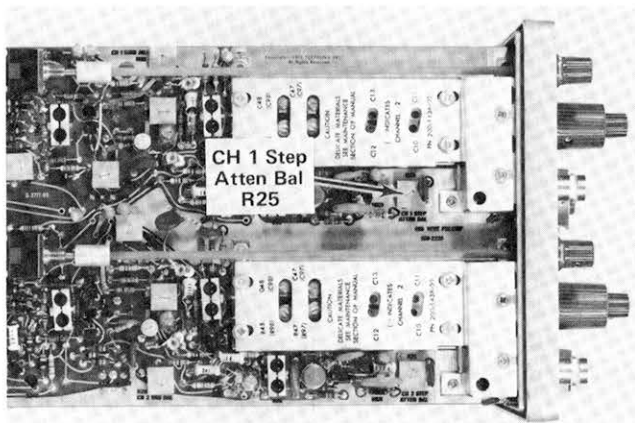

Fig. 5-10. Location of CH 1 Step Atten Bal adjustment.
d. ADJUST—CH 1 Step Atten Bal adjustment, R25, (see Fig. 5-10) for minimum trace shift when rotating the CH 1 VOLTS/DIV switch from 20 mV to 5 mV.